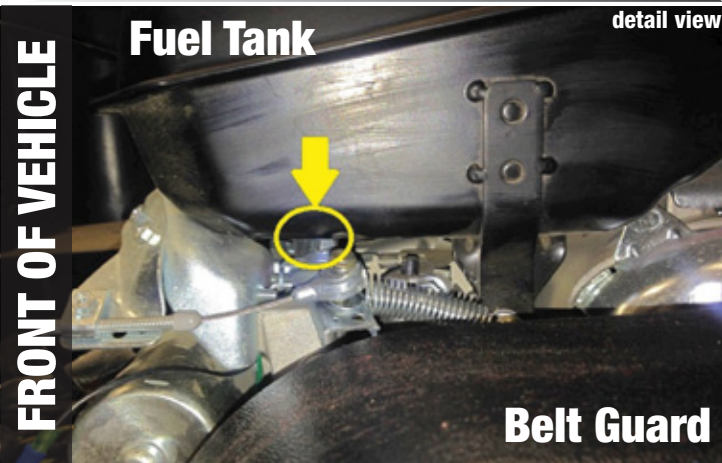

fig. 1
1. Locate the throttle tension nut on the driver side of the vehicle just under the fuel tank (see figure 1).